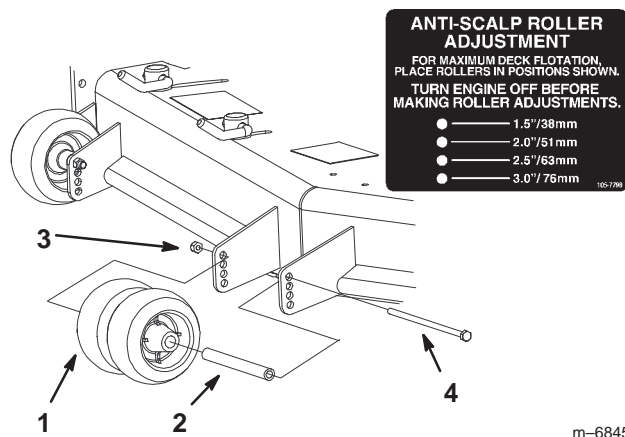

Figure 19
- Note:** The two middle rollers will not have a spacer (Fig. 19).